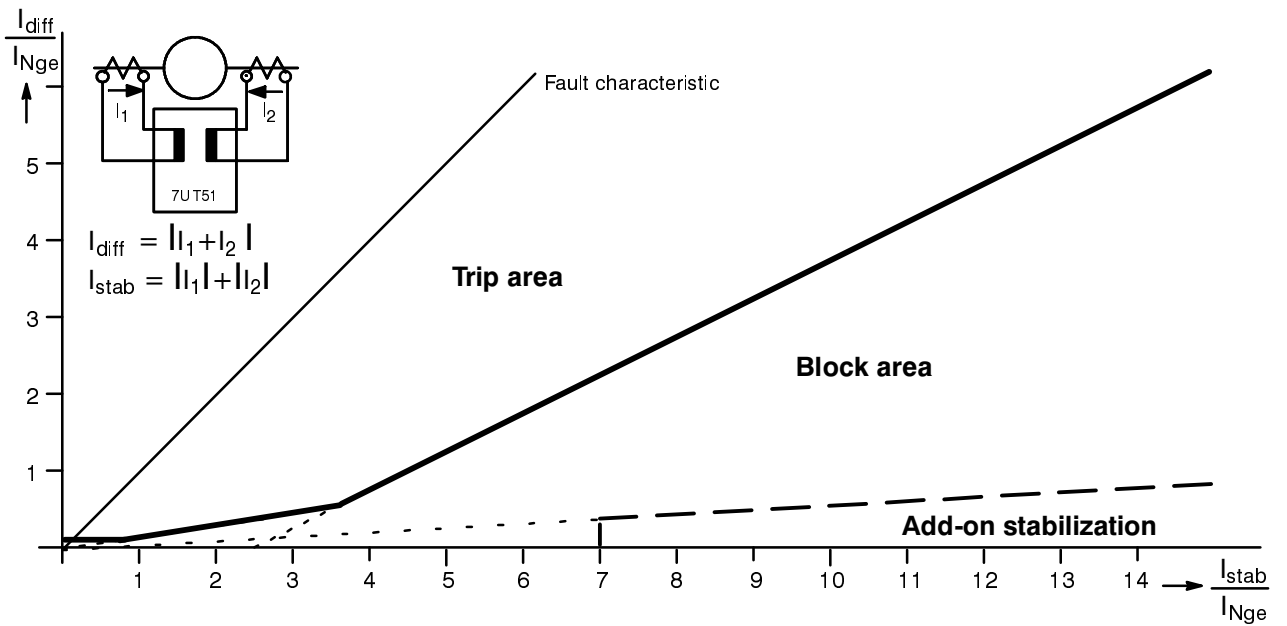

Figure 3.6 Pick-up characteristics for use as generator or motor protection
**Pick-up characteristics** refer to Figure 3.6